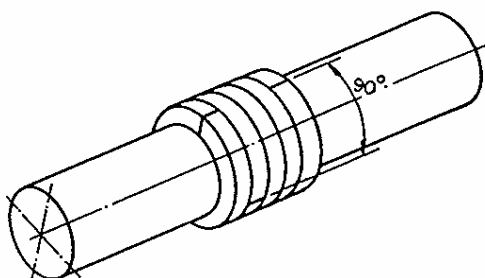

Fig. 15. Position of rings with ends poisoned 90° from each other
- Proceed the assembly in the reverse sequence of disassembly, introducing each part inside the chamber with the help of the gland cover. The packing rings must be assembled with their ends positioned 90° from each other (Fig.15).